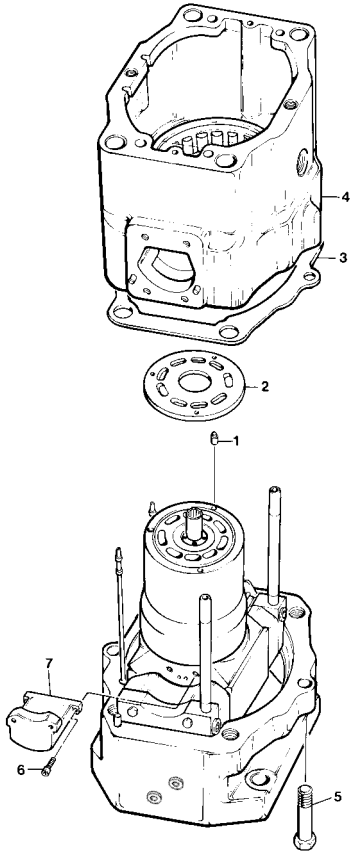

FIGURE 6
See figure 6. Install new gasket (3) over the dowel pin in the mounting flange. Do not use gasket compound.
PARTS LIST FOR FIGURE 6